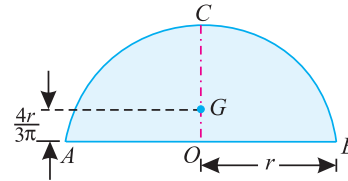

Fig. 6.4. Semicircle
5. The centre of gravity of a semicircle is at a distance of  $\frac{4r}{3\pi}$  from its base measured along the vertical radius as shown in Fig. 6.4.